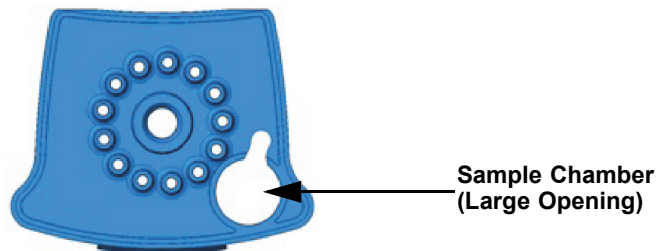

Figure 1. Xpert Factor II & Factor V Cartridge (Top View)
3. Open the cartridge lid. Using a pipette with an aerosol resistant tip, transfer 50 µL of sodium citrate or EDTA anticoagulated blood to the bottom wall of the Sample opening of the Xpert Factor II & Factor V Assay cartridge. See Figure 1.